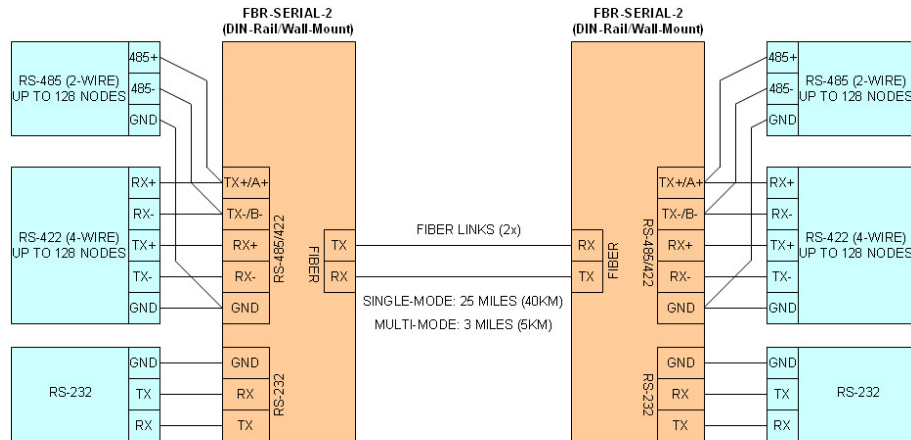

FIGURE 1: FBR-SERIAL-2 CONNECTION DIAGRAM
- Check the connections according to the above "CONNECTIONS" diagram (Figure 1).